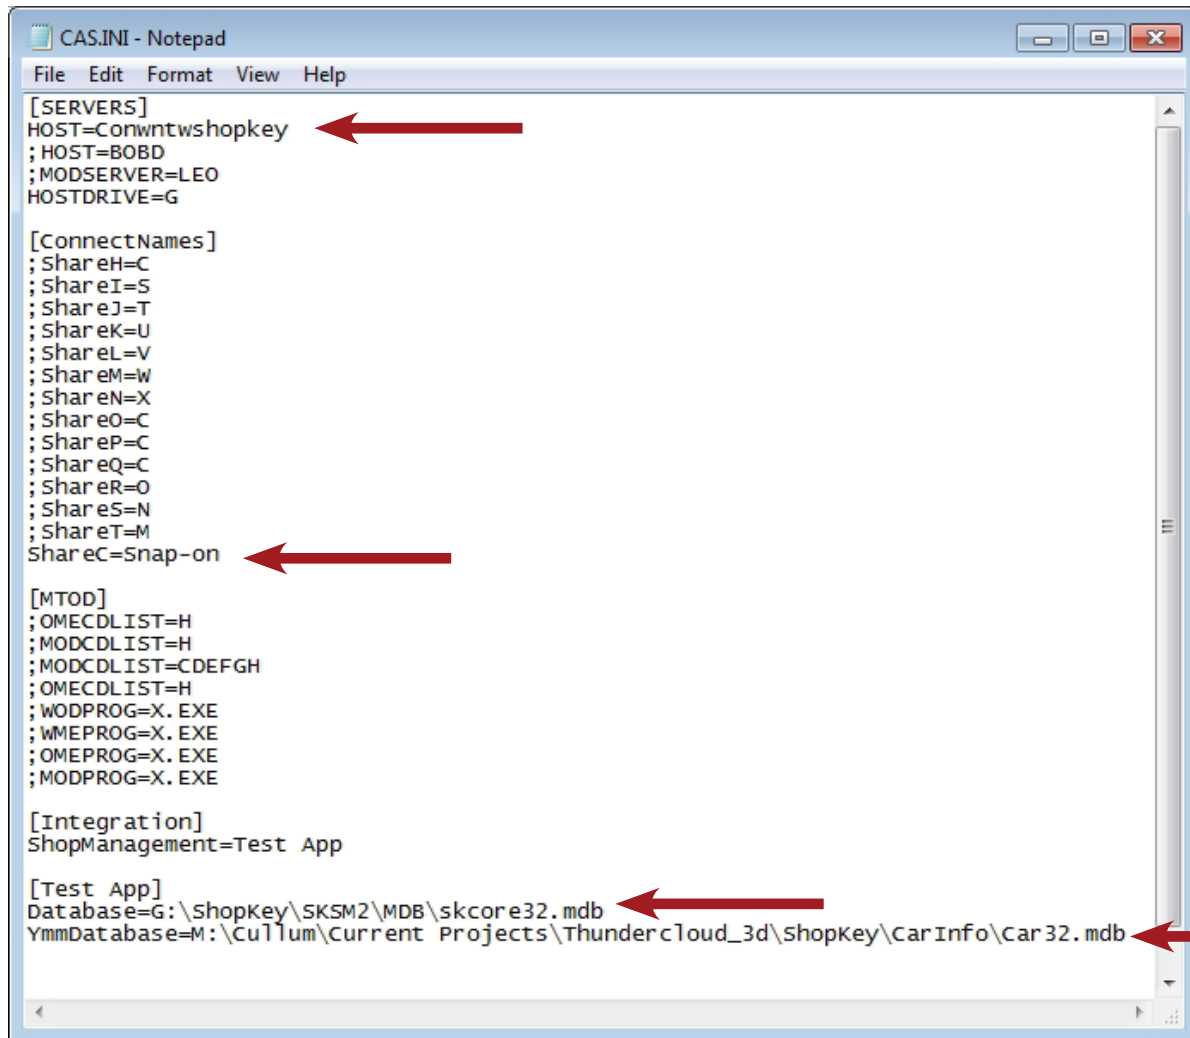

Figure 2
12. Open the CAS.INI file with Notepad to make sure the information is correctly entered. The file is located in the “Windows” root directory. See Figure 2 for an example.